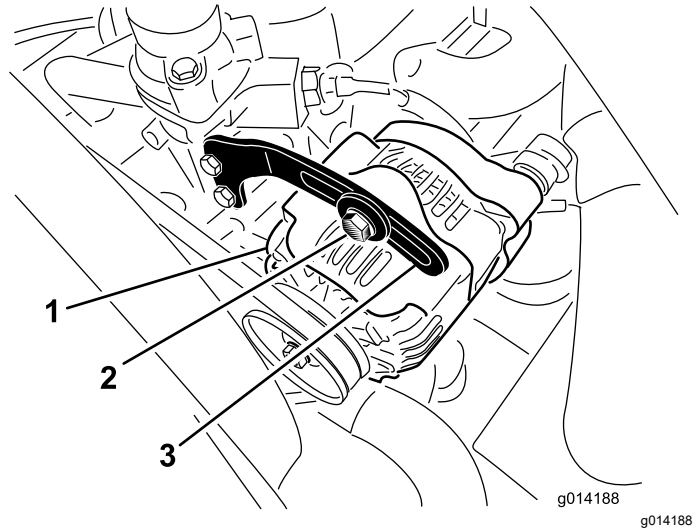

Figure 47
2. Check the tension of the alternator belt by pressing it (Figure 47) midway between the alternator and the crankshaft pulleys with 10 kg (22 lb) of force.
3. Loosen the bolt securing the brace to the alternator (Figure 47) and the alternator pivot bolt.